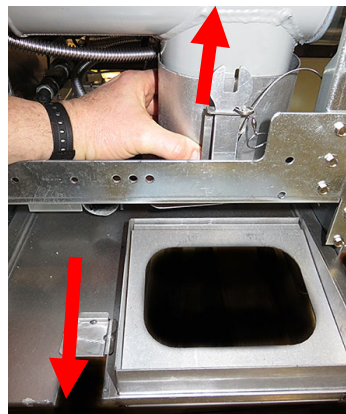

Figure 2
4. Remove the filter pan lid by sliding up on the drain dump dispose sleeve, while pulling forward on the filter pan lid (see Figure 2).